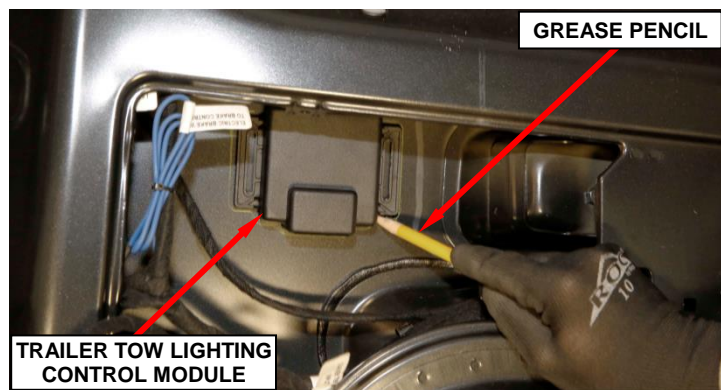

Figure 19 – Mark Module Location
22. Using a grease pencil or equivalent, mark the module location (Figure 19).